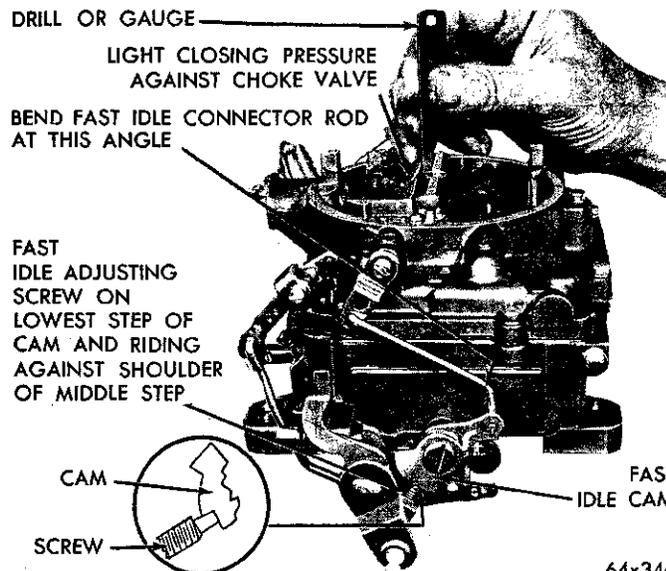

Fig. 13—Fast Idle Cam Position Adjustment
(1) Open the throttle valves far enough to allow the fast idle speed adjusting screw to clear the fast idle cam.
(2) Insert a  $\frac{5}{32}$  inch drill or gauge between the choke valve and the air horn wall, as shown in Figure 13.
(3) Close the throttle valves until the fast idle speed adjusting screw contacts the fast idle cam.
(4) Adjust the fast idle connector rod, using Tool T109-213 by bending at the angle until the fast idle speed adjusting screw lightly contacts the **middle step** on the fast idle cam, but slides onto the **bottom step** of the cam. The fast idle speed adjusting screw must